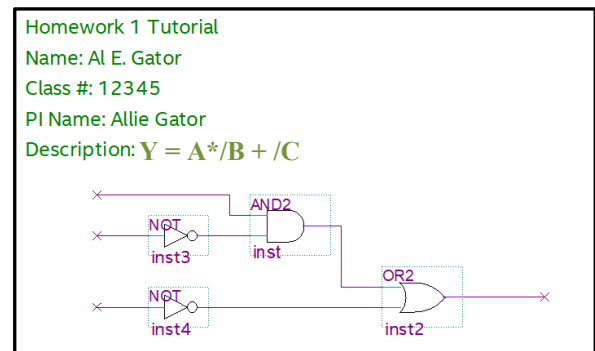

Figure 3: BDF with wires
- 6) Add the rest of the wires needed to connect the logic diagram. Add small input lines where the three inputs will be placed and an output line where the output will be placed. Your BDF should look similar to Figure 3.